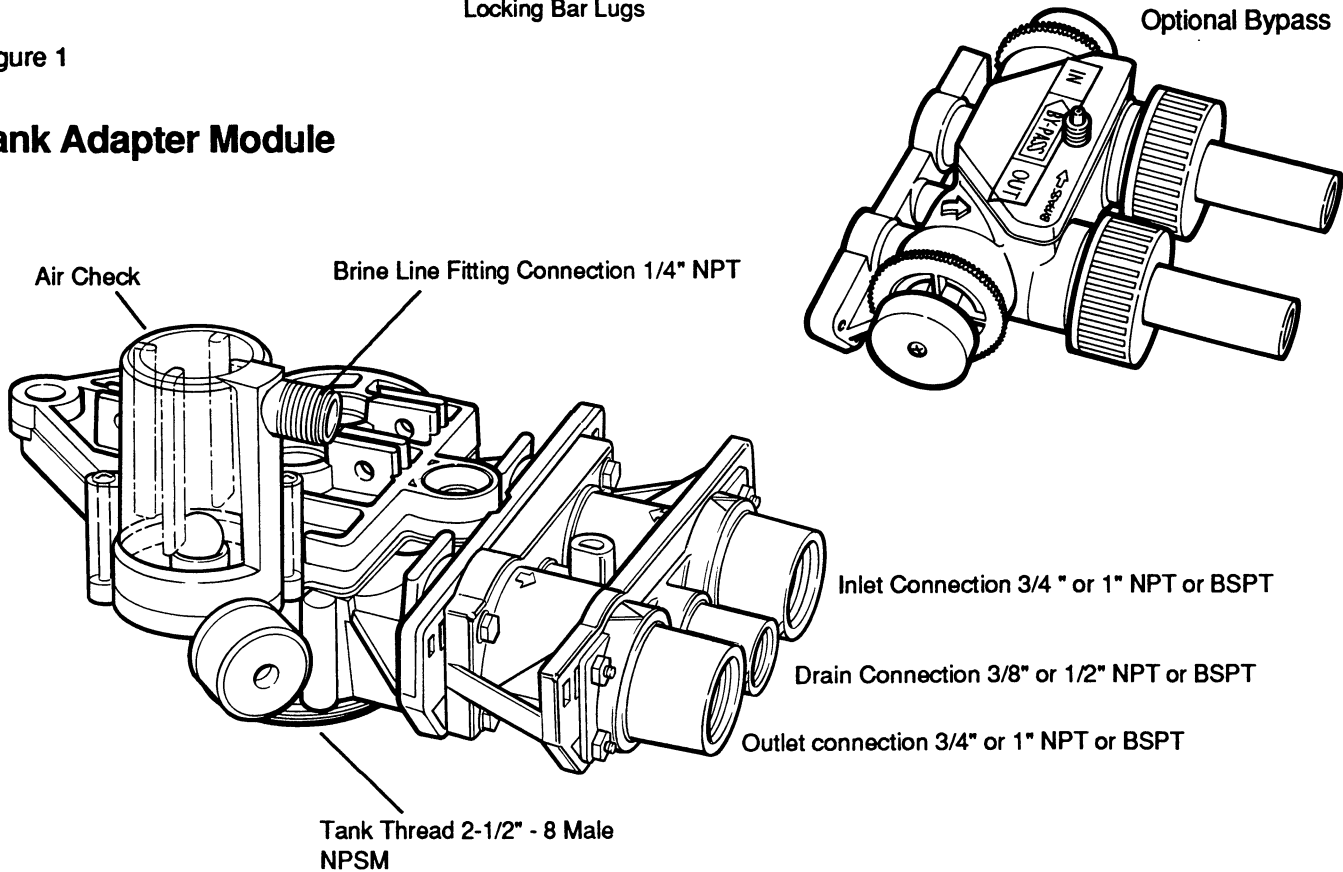

Figure 2
1. If ideally located, the unit will be above and not more than 20 feet (6.1 m) from drain. For such installations connect 1/2-inch (1.3 cm) I.D. plastic tubing to DRAIN LINE CONNECTION located on CONTROL (Figure 2).